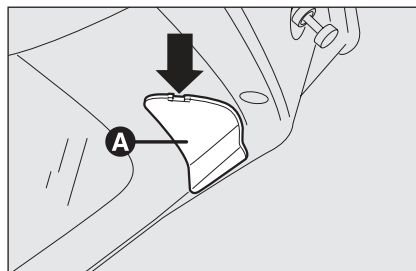

fig. 35
- ☐ remove cover **A-fig. 35** working with a screwdriver in the point indicated by the arrow;
- ☐ close cover **A-fig. 35**.
- ☐ remove the cover **A-fig. 35** working in the point shown by the arrow;